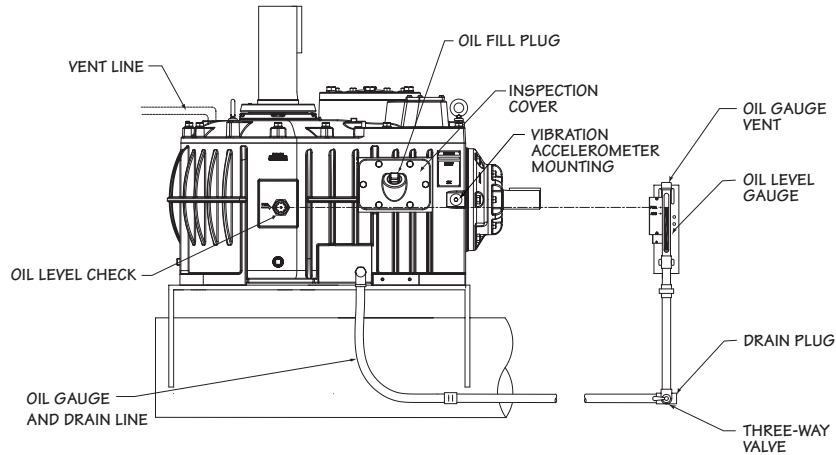

Figure 3 Service Fittings
Drain the Geareducer oil by removing the drain plug. See **Figure 3** for location. If equipped with an external dipstick/oil level gauge, remove the drain plug at that location, and drain the entire system.
1. Install oil at the opening at the Geareducer inspection cover. Full is the center of the sight glass. If oil is **not** visible in the sight glass then oil needs to be added. See **Figures 3** and **4**. Install plug.
The cooling tower has an external oil gauge and drain line equipped with a three-way valve below the oil level gauge. See **Figure 3**.